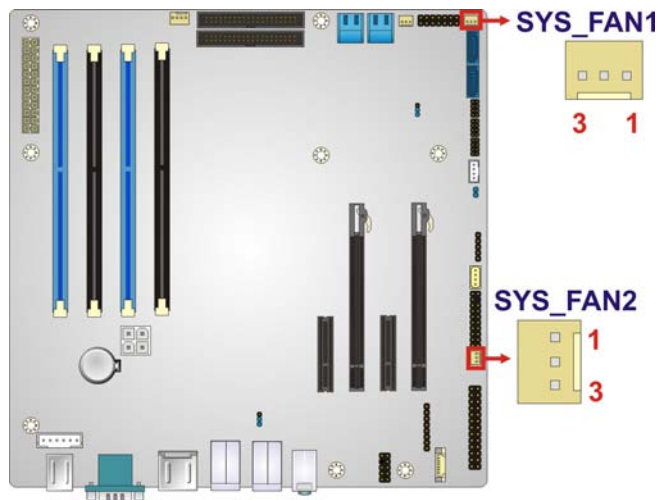

Figure 3-23: System Fan Connector Locations
- CN Location: See **Figure 3-23**